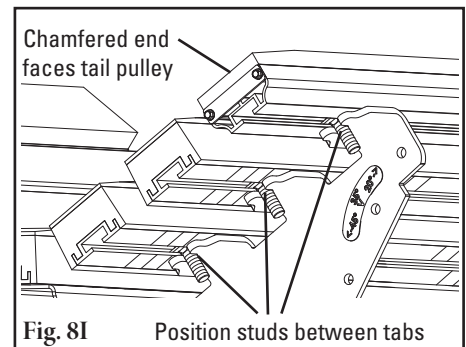

Fig. 8I
- 8I. Install bars to wing plates. Starting with the innermost bars, set the bars in place. Position the studs between the tabs in the wing assembly while confirming the chamfer of the bar is positioned facing the tail pulley (Fig. 8I). See below for bar assembly configuration based on bed model.